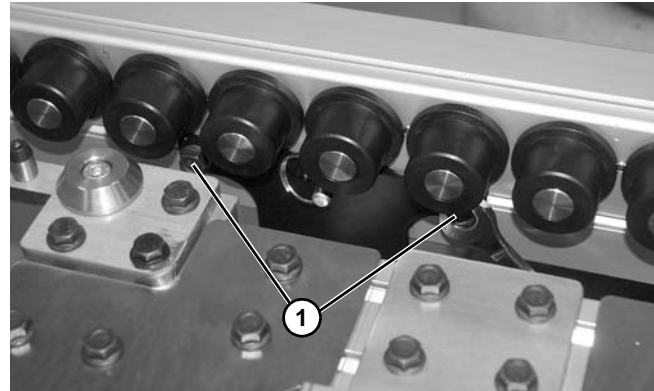

Figure 20
3. Tilt locate station, as needed, and install and tighten bolts (**Figure 20, item 1**) into follower nuts inside channel.